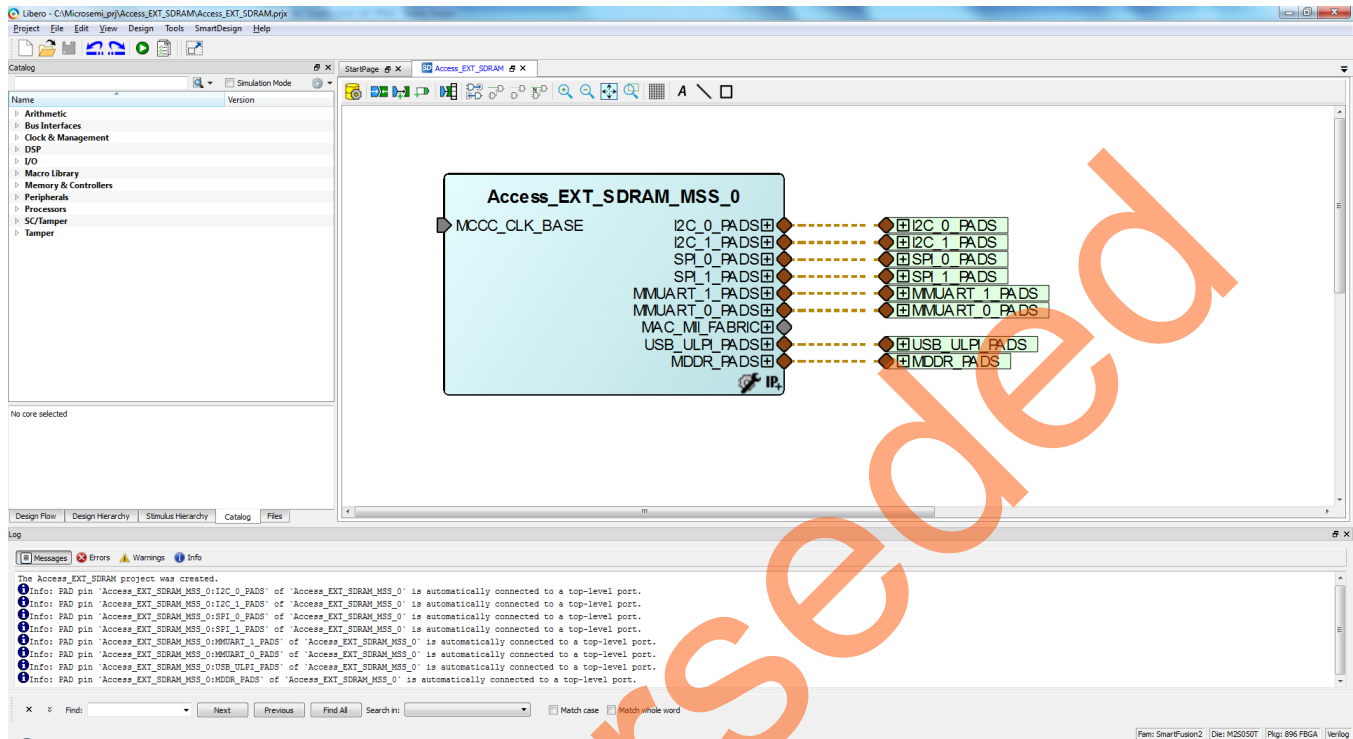

Figure 4. Libero Window on Completion of New Project Creation Wizard
1. The project is created and the Libero SoC window is displayed as shown in Figure 4. The **SmartDesign** window opens and a project **Access_EXR_SDRAM** is created with the instantiation of the MSS component.